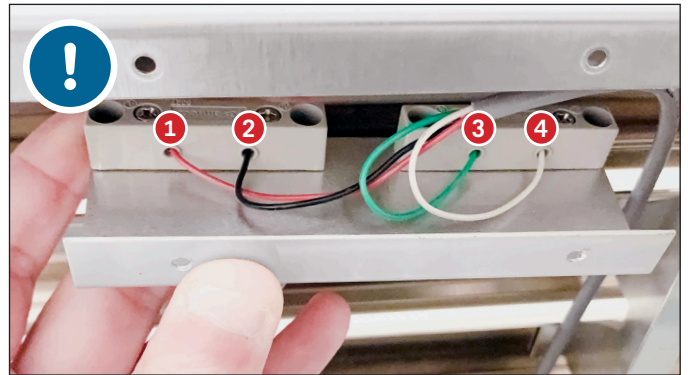

FIG. 5. Label the original wire locations **BEFORE** disconnecting the reed switch.
NOTE: IF FOUR (4) WIRES ARE CONNECTED TO THE REED SWITCH, BE SURE TO CLEARLY LABEL THE WIRES' ORIGINAL LOCATIONS BEFORE DISCONNECTING THE REED SWITCH. WIRE LOCATION IS CRITICAL TO THE APPLIANCE'S OPERATION. SEE FIG. 5.
NOTE: BE SURE TO CONNECT THE WIRES TO THE REED SWITCH AS ORIGINALLY CONFIGURED. WIRE LOCATION IS CRITICAL TO THE APPLIANCE'S OPERATION. SEE FIGS. 5 OR 20.